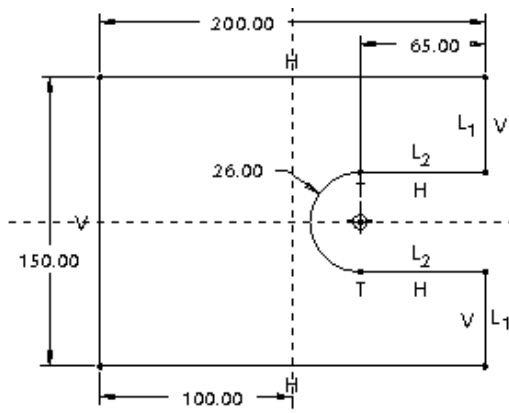

Figure 3-47 Sketch after modifying the dimensions
4. Modify all dimensions one by one, as shown in Figure 3-47. You will notice that the dimension you select in the **Modify Dimensions** dialog box is enclosed in a yellow box in the graphics window.